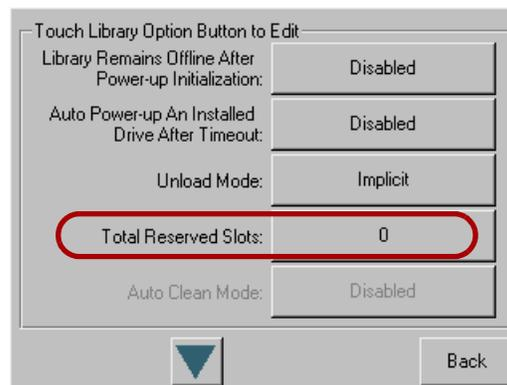

Figure 3-8: Total Reserved Slots Screen
2. On the Library options screen, press the **Total Reserved Slots** button (Figure 3-8).